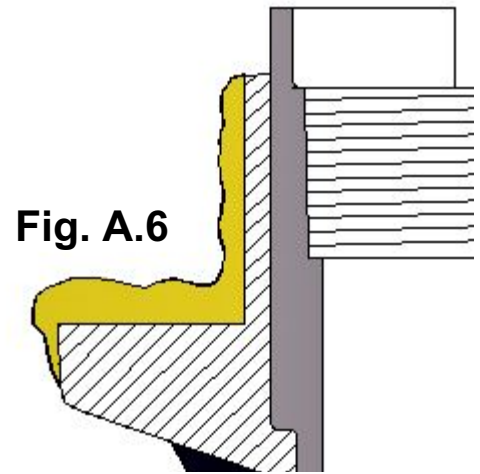

Fig. A.6
A.6 - Mix Bravo Retrofit Epoxy and apply to the exposed flange face and side walls. (Fig. A.6)